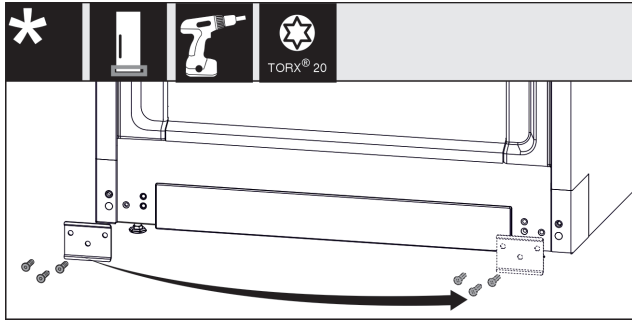

Fig. 10
- ▶ Unscrew the metal plate, move it to the other side and screw it on again. *Fig. 10 (1)*
- ▶ Put the cover back on the other side. (1)